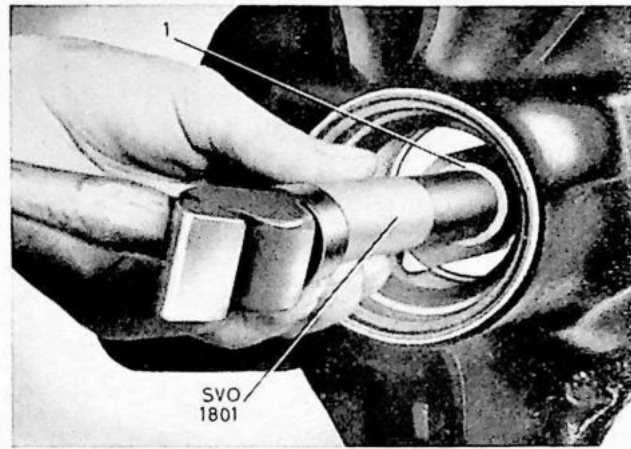

Fig. 24. Removing bearing ring.
10. If necessary, drive out the bearing outer rings, see fig. 24. Use standard handle SVO 1801 and drift SVO 4064 for the front and SVO 2207 for the rear ring. Preserve the shims (25) under the rear ring.